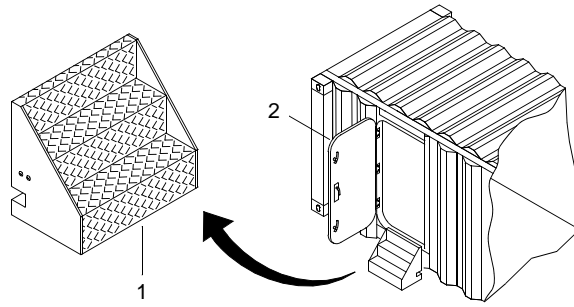

Figure 27. Steps on Generator Container
9. Fold up steps (figure 27, item 1).
10. Close, lock and dog generator container exterior door (figure 27, item 2).